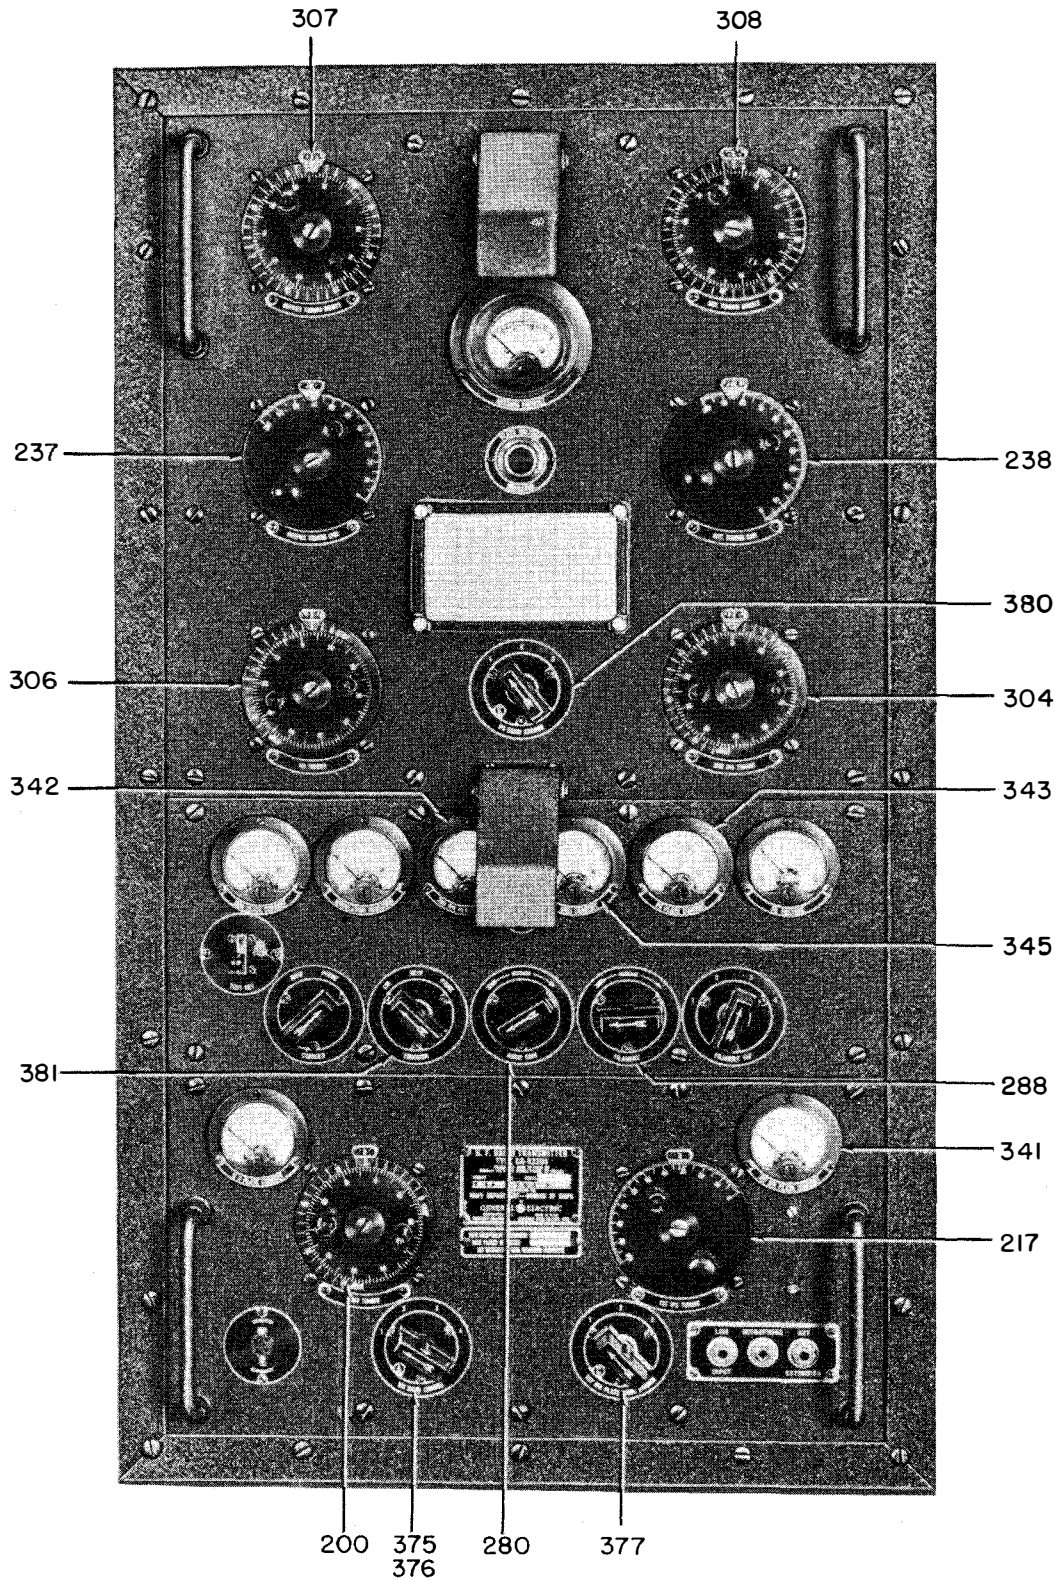

Figure 1-4. H-f Radio Transmitter Navy Type CG-52206, Front View
(3) FRONT PANEL CONTROLS. (See figure 1-4).—The panel is divided into three sections. The controls in the top section are arranged in three vertical rows. Starting from the left side of the panel these controls are: the "OUTPUT TUNING INDUCTIVE" control (307), the "OUTPUT TUNING CAPACITIVE" control (237), the "PA TUNING" control (306), the "ANTENNA CURRENT" meter with the hinged illuminating lamp directly above it, the "PLATE VOLT-